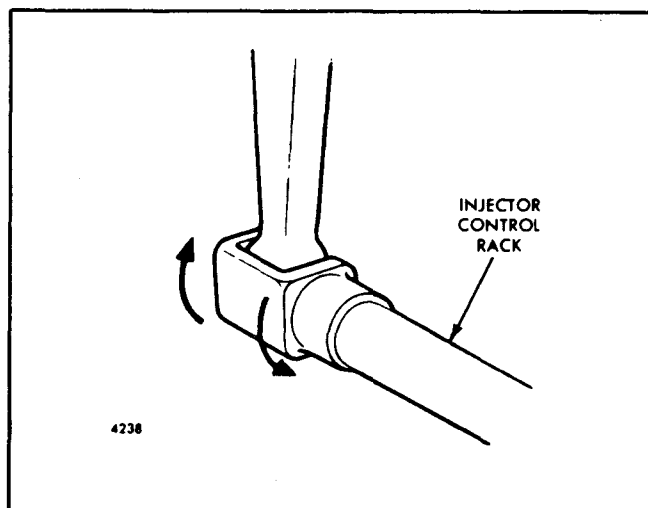
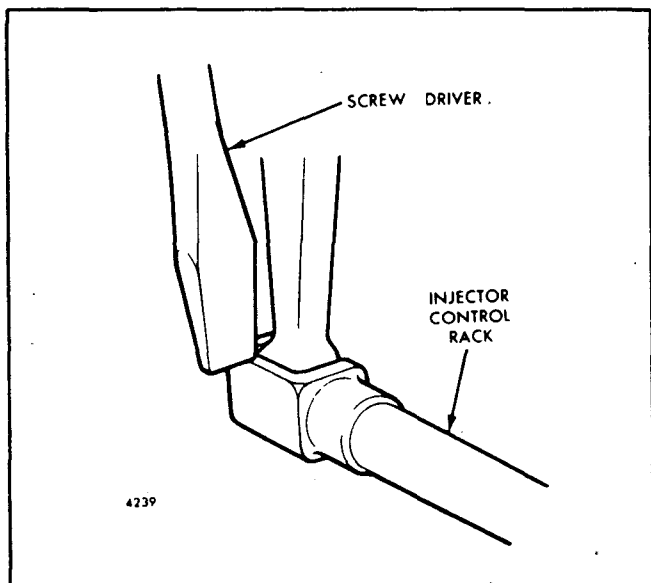

Fig. 3 - Checking Rotating Movement of Injector Control Rack
Fig. 4 - Checking Injector Control Rack "Spring"
5. To be sure of the proper rack adjustment, hold the stop lever in the run position and press down on the injector rack with a screw driver or finger tip and note "rotating" movement of the injector control rack (Fig. 3) when the stop lever is in the run position. Hold the stop lever in the run position and, using a screw driver, press downward on the injector control rack. The rack should tilt downward (Fig. 4) and when the pressure of the screw driver is released, the control rack should "spring" back upward.